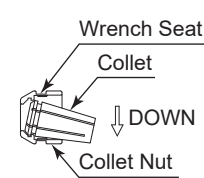
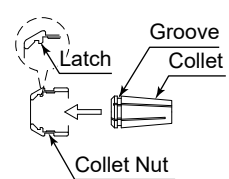
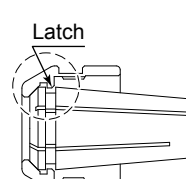

Fig. 8
Fig. 9
Fig. 10
- The collet and collet nut are secured by a groove in the collet and a flange in the collet nut. To remove the collet hold the collet nut in one hand and push diagonally down on the collet. The collet should be released (Fig. 8).
- To install the collet, hold the collet at a slight angle, and insert it into the collet nut (Fig. 9). Press the collet in the collet nut and pressing down on flat surface (Fig. 8). Be sure to fully engage the latch inside the collet nut into the groove on the collets outer circumference area (Fig. 10).